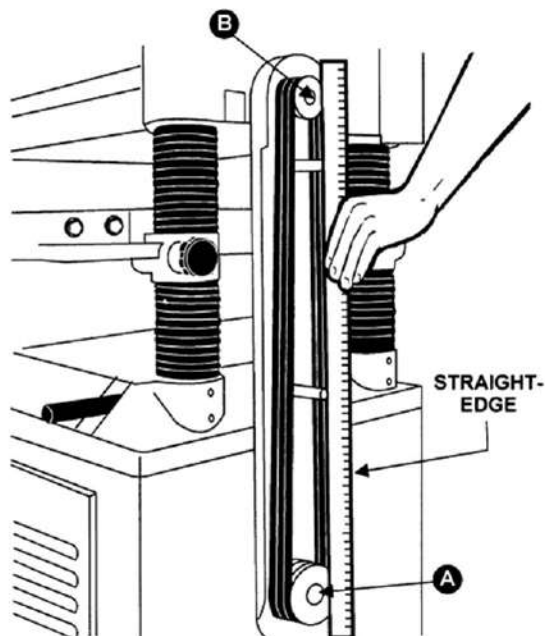

Figure 34. Checking pulley alignment.
2. Remove both cabinet covers and the belt cover, then use the straightedge to check pulley alignment, as shown in **Figure 34**.